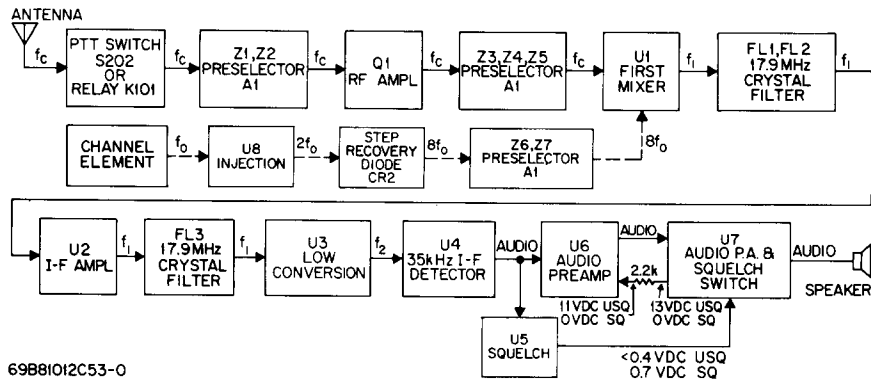

Figure 7. UHF Receiver Block Diagram
- b. RF Circuits, UHF Receivers (Refer to Figure 7 and the schematic diagram in Service Manual 68P81012C58)